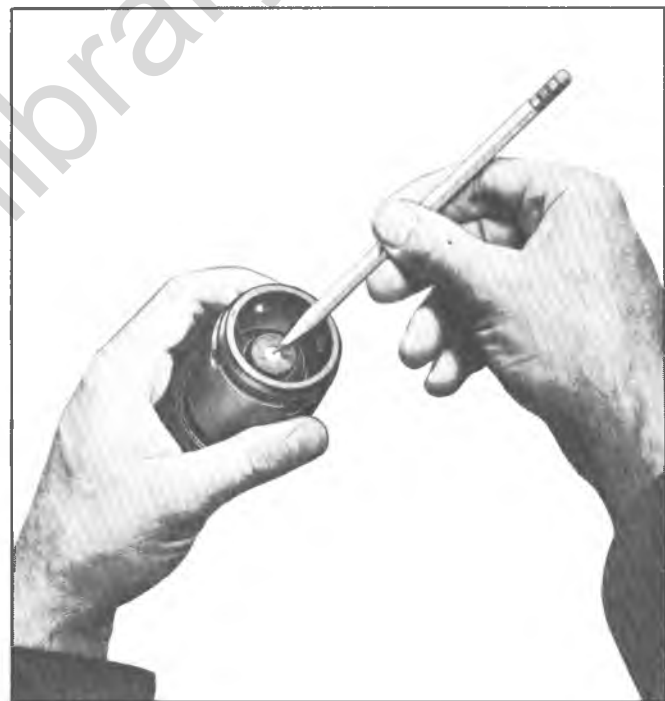

Fig. 7B--Removing Reaction Piston and Reaction Disc From Secondary Power Piston
8. Remove the reaction piston and reaction disc from the center of the secondary power piston by pushing down on the end of the reaction piston with a small object, such as a pencil, wooden dowel or metal rod (fig. 7B).